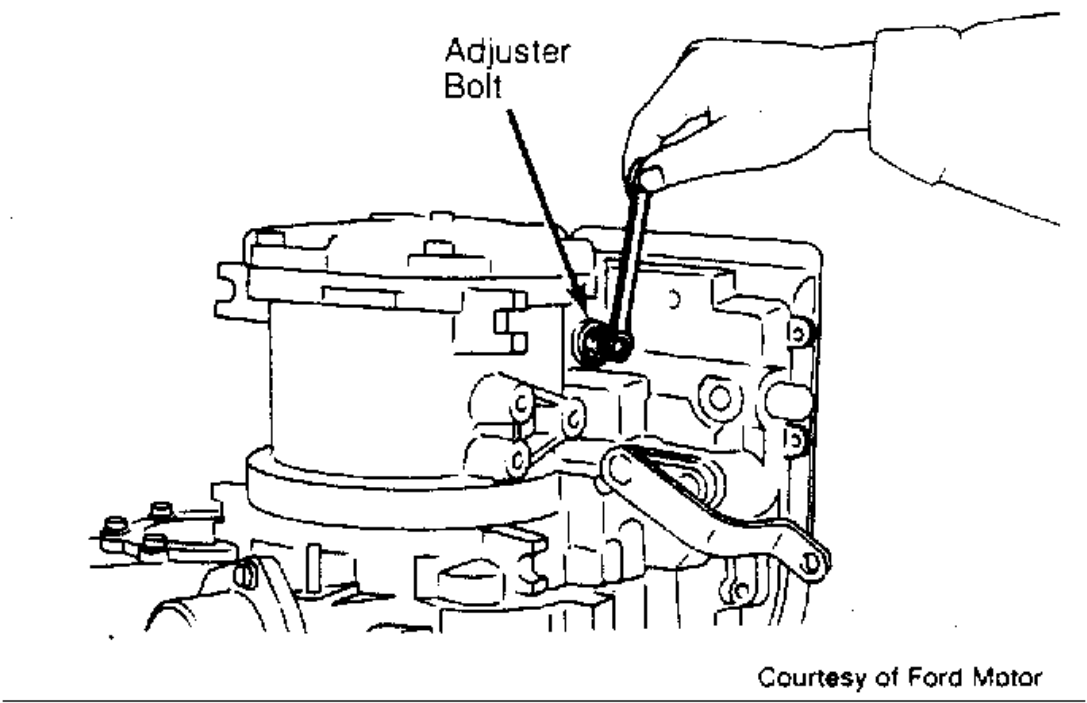

Fig. 3: Adjusting Intermediate Band
1. Loosen adjuster bolt lock nut. See Fig. 3 . Tighten adjuster bolt to 9-11 ft. lbs. (12-15 N.m). Back out adjuster bolt exacty 3 turns.